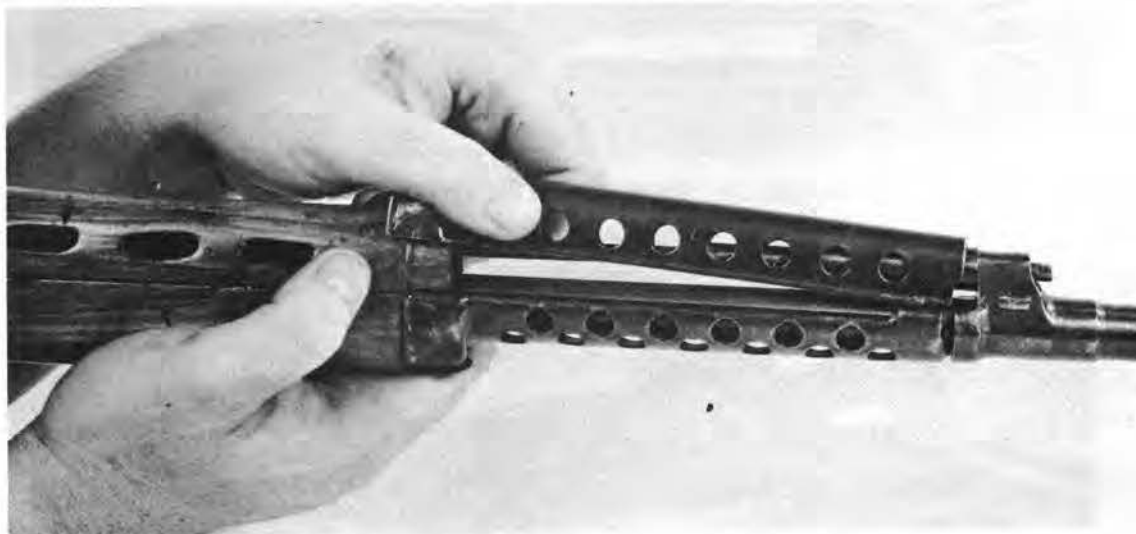
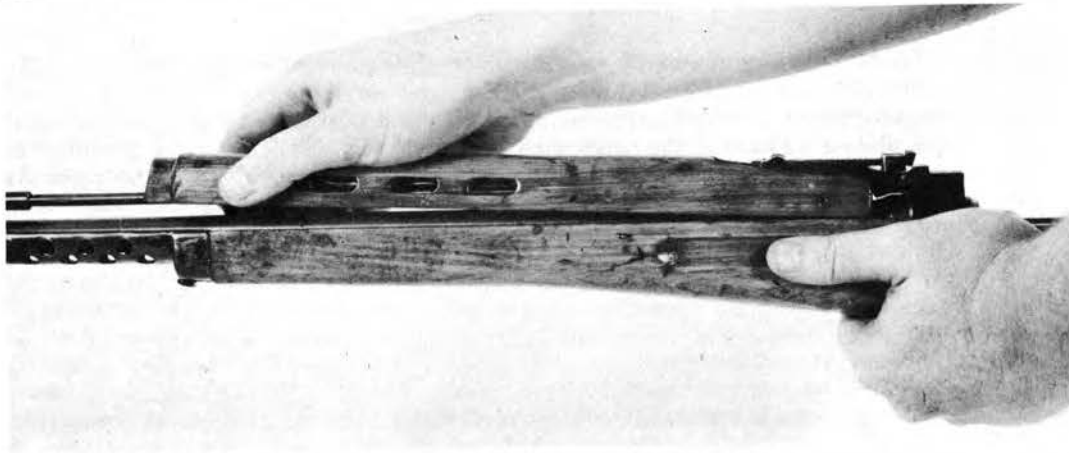

FIGURE 69. REMOVING THE TOP BARREL JACKET.
FIGURE 70. REMOVING THE HANDGUARD.
- (1) Remove the one-piece stock. After the trigger mechanism has been removed as described for the rifle M1938, press the band retaining catch and slide the stock band forward. This permits removal of the two perforated metal guards, which are placed forward of the handguard and stock (fig. 69). This also permits the removal of the handguard (fig. 70). Then remove the screw from the right side of the stock, just forward of, and above, the magazine opening (fig. 71). Separate the stock from the barrel and receiver assembly (fig. 72).